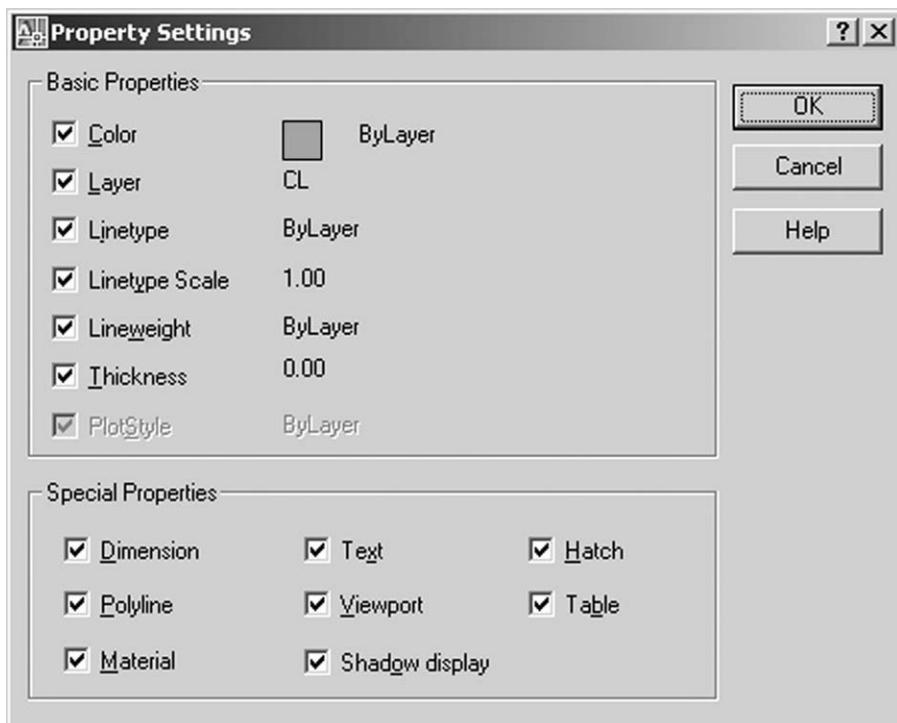

Figure 12.3 The Property Settings dialogue box from the MATCH Properties command.
- d) generally the Basic and the Special Properties are active at all times as Figure 12.3 but the user can alter as required